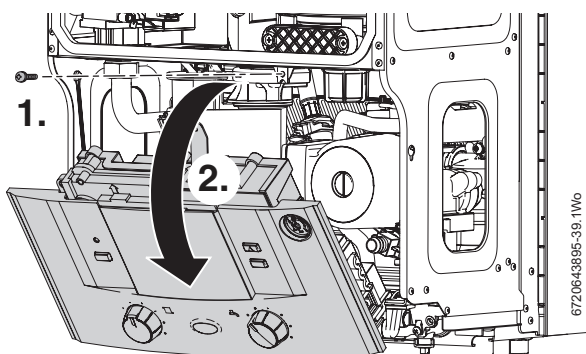

Fig. 48 Moving control panel into the service position
1. Refer to figure 48 and remove the screw securing the control panel.